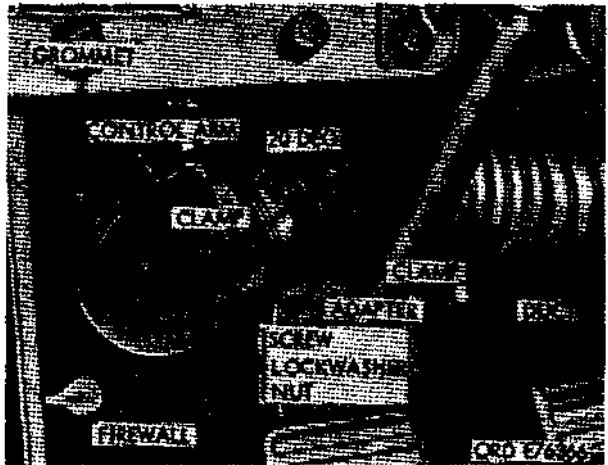
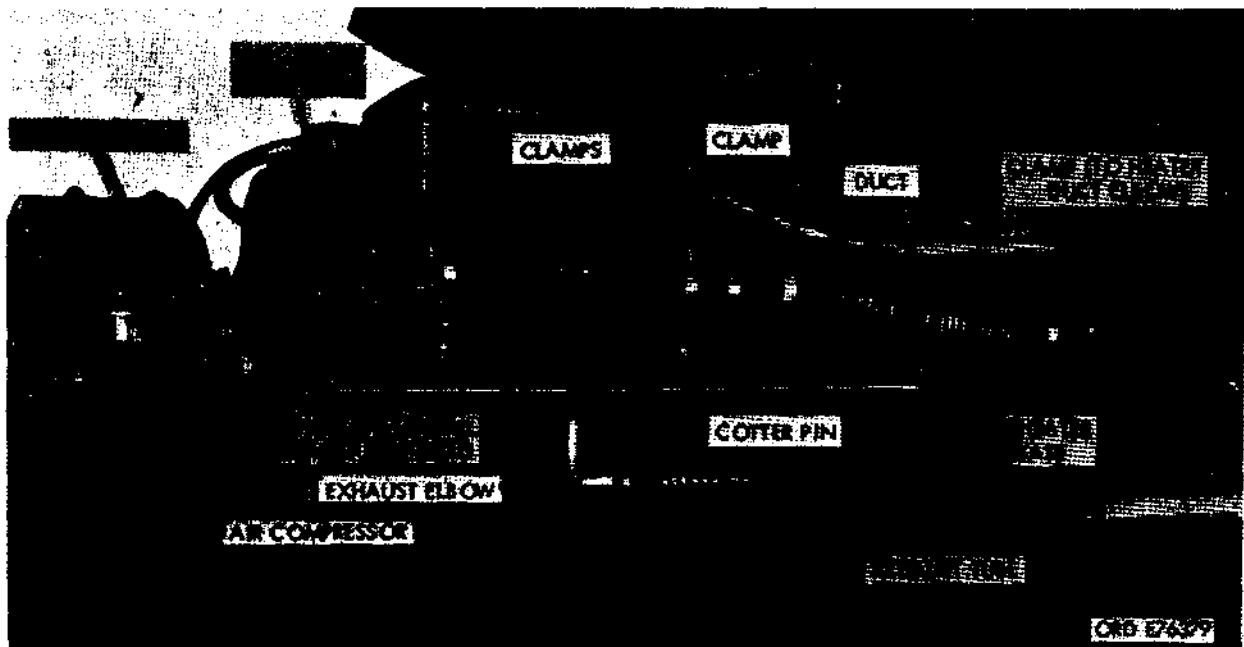

Figure 679. Heater duct elbow.
Figure 682. Installing personnel heater.
d. Install heater Duct Elbow (Figure 679).
- (1) Remove the 4- $\frac{1}{8}$ inch knockout plug from the left side of firewall (Fig. 682).
- (2) Remove and retain the two screws and nuts and four lockwashers which came with the heater duct elbow.
- (3) Place elbow flanged end through knockout, with other end of elbow facing right toward diverter, as indicated in figure 679. Set angle of elbow about 20 degrees from horizontal.
- (4) Mark location of mounting holes to be drilled and remove elbow.
- (5) Center punch and drill two $\frac{3}{16}$ dia. holes
- (4) Attach the 14 inch long duct 8711056 to the heater duct elbow (inside engine compartment) (fig. 682). Attach the other end to heater duct (fig. 682). Secure with clamp MS 96906-35842-4 at each end.
pressor intake body (Fig. 682) and re-